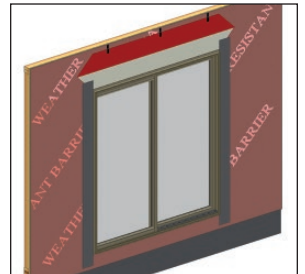

FIG. 28
- E) Tape the cut seams of the WRB. (Fig. 28)